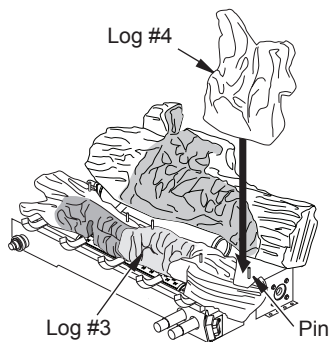

Figure 25 - Installing Log #4
4. Align hole in bottom of log #4 with pin on base as shown in Figure 25. The end of log #4 will rest on base behind log #3.